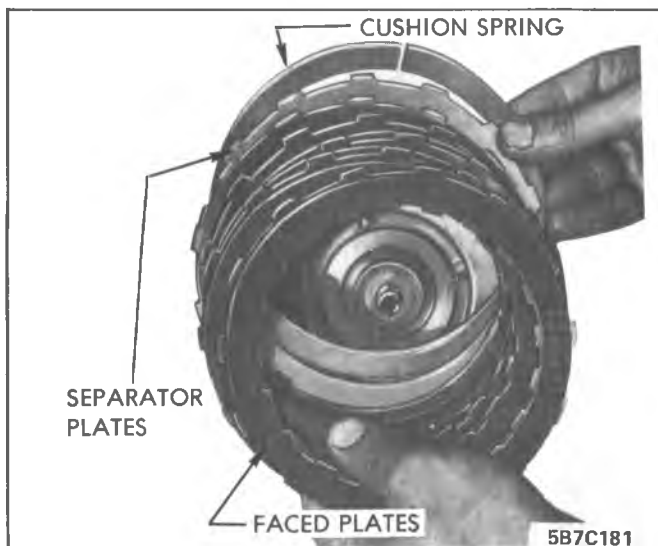

Figure 7A3-91 Forward Clutch Plates
4. Remove spring retainer and springs by compressing with a ram press. See Figure 7A3-92.